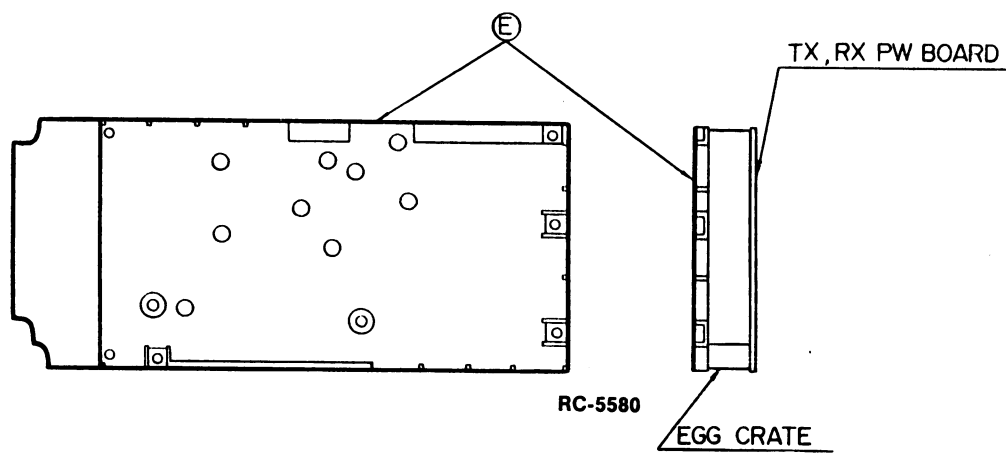

FIGURE 23 - DISASSEMBLY,STEP 3
4. Remove the radio shield cover (E) from the radio board. Remove radio board. (See Figure 23)